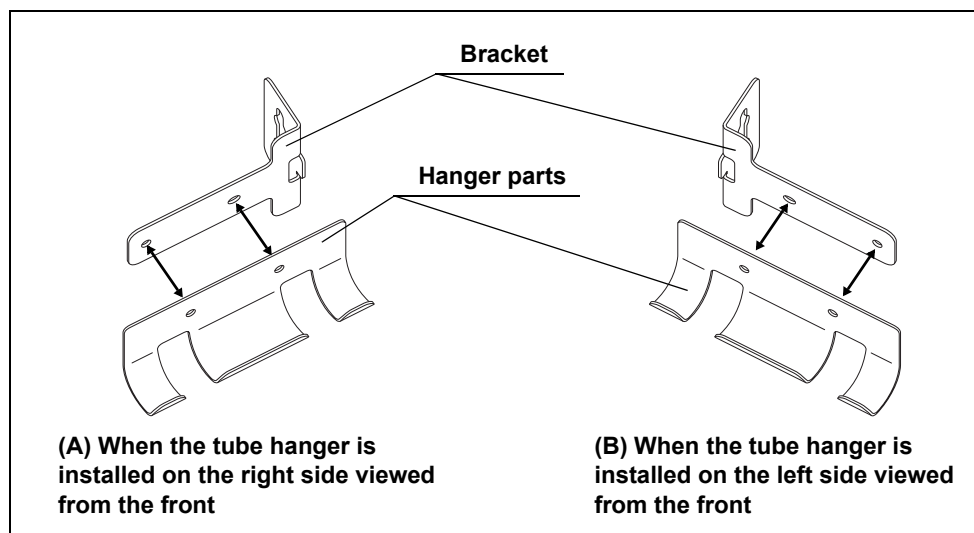

Figure 3.2
- 1 To install the tube hanger on the right side viewed from the front, align the holes of the bracket and the hanger part as shown in Figure 3.2 (A).
(To install the tube hanger on the left side viewed from the front, align the holes of the bracket and the hanger part as shown in Figure 3.2 (B).)